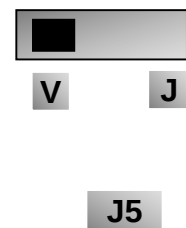

Figure 8-7
- xiii. Analog output terminal AO1 can output voltage and current signal, the selecting switch is J5, refer to Fig 8-7 the output relation is shown in Table 8-4.